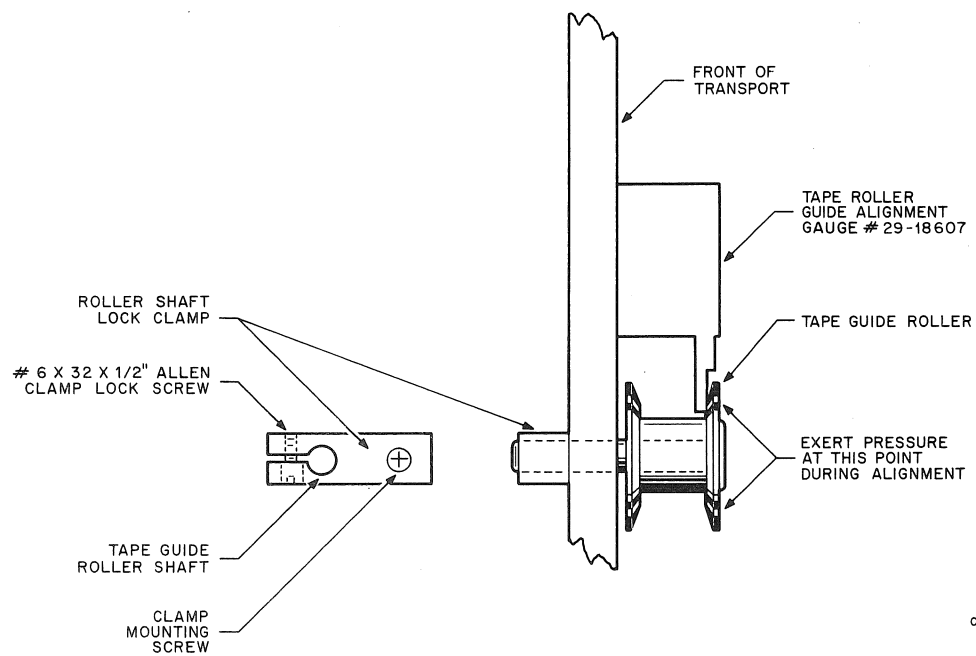

Figure 5-33 Tape Guide Roller Adjustment
2. Loosen the clamp lock screw (see Figure 5-33).
3. Use gauge No. 29-18607 to adjust the tape guide roller as shown in Figure 5-33.